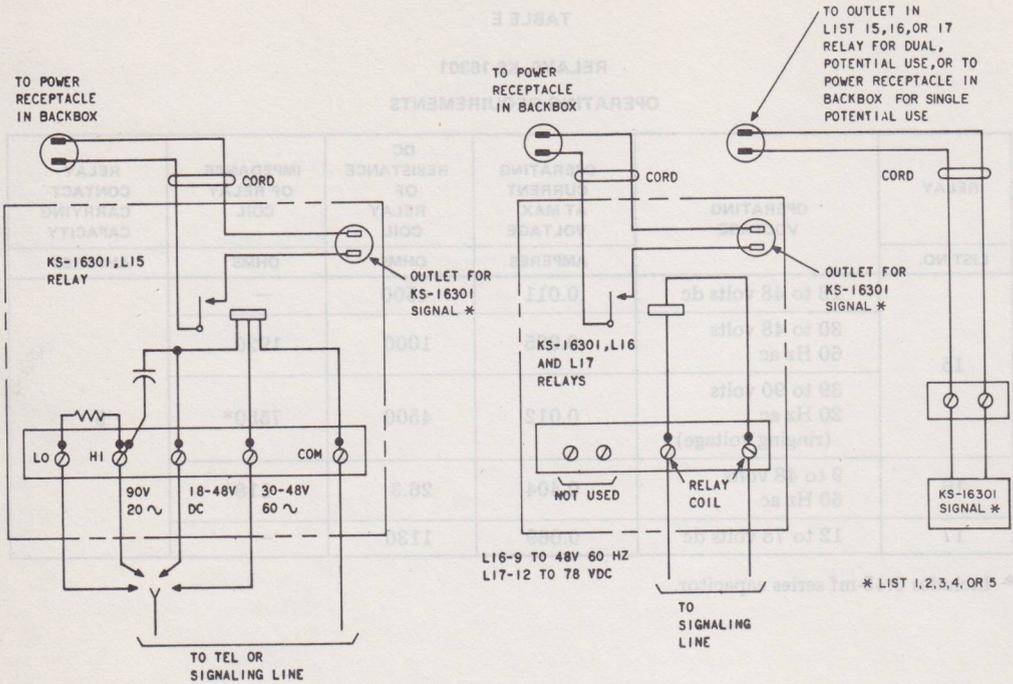

Fig. 20—KS-16301 Signal and Relay
6.01 Connections for KS-16301 signals and relays are shown in Fig. 20.